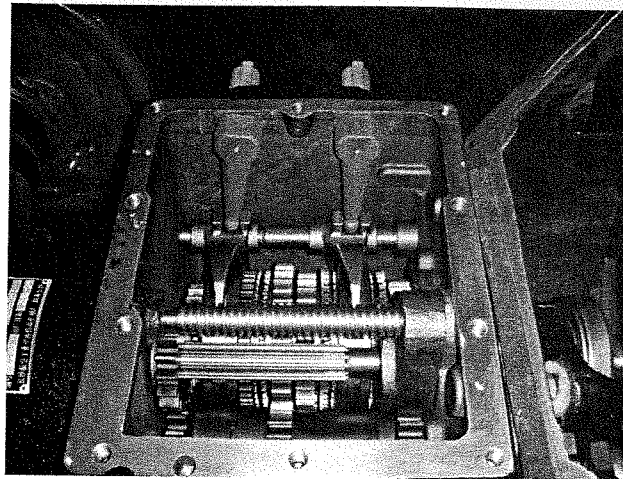

Fig 2-16
(4) Perform fast-speed gear shift, from forward to backward, or from backward to forward, for the front end of gear-shift lever to leave the shell of transmission case (Fig 2-16).